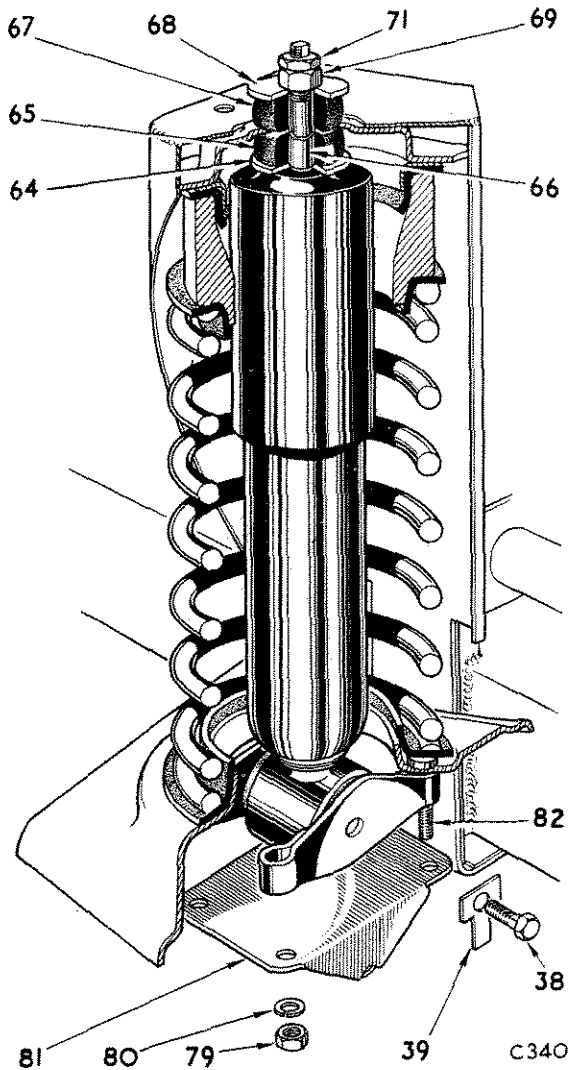

Fig. 6. Attachment of front damper
Removal (Fig. 6)
After pumping the damper as previously described, keep the damper upright and in the extended condition whilst passing it upwards through the aperture in the spring pan. Secure the upper end by fitting the washer (64), rubber bushes (65) and (67), sleeve (66), washer (68), nut (69) and locknut (71) as shown on Fig. 6.